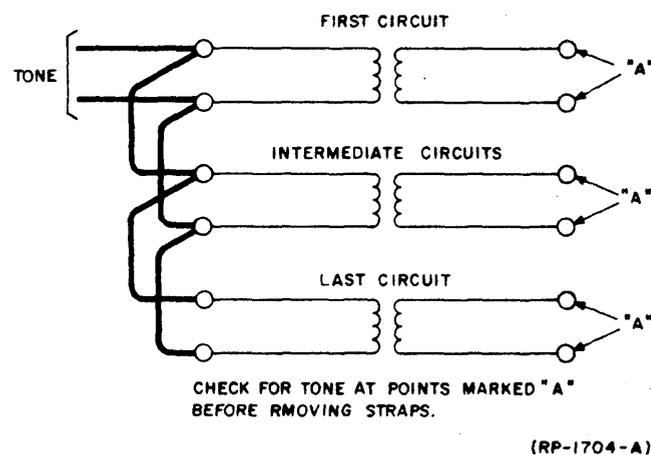

Fig. 3 - Test Connection Circuit
9.04 Strap all of the tip conductors together and all of the ring conductors together in all circuits in the group under test and connect the strapped tips and rings to a tone supply. Check for tone across the tip and ring at the other side of each circuit (see Figure 3). Remove the straps from one circuit at a time and note the absence of tone on that circuit.